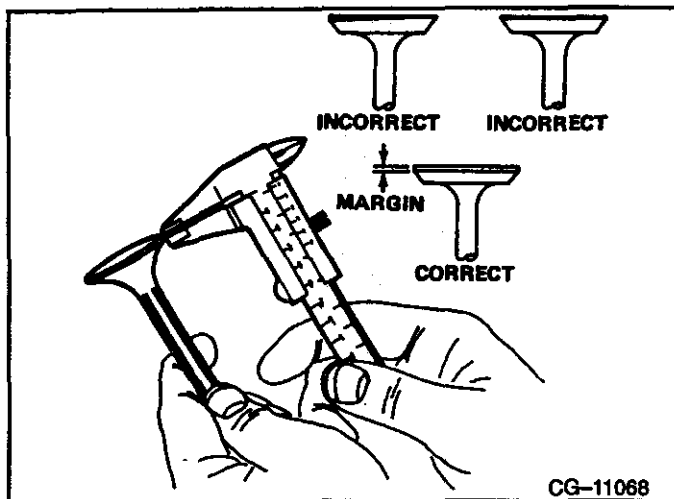

FIGURE 7-37
2. Measure valve face margin at four locations using a caliper. Refer to **FIGURE 7-37**.